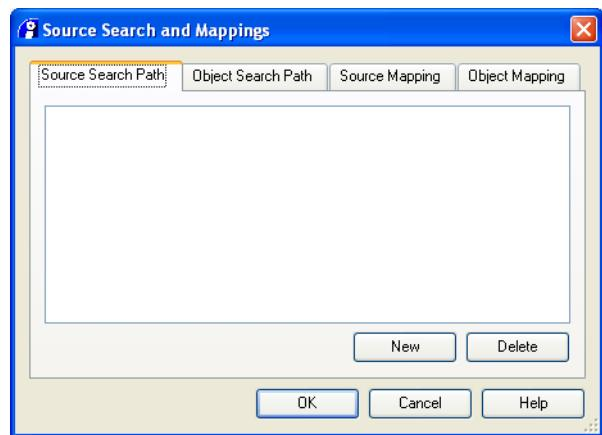

Figure 4-14 Source Search Paths dialog box
1. Select **Set Source Search Path...** from the **Debug** menu to display the Source Search and Mappings dialog box. Figure 4-14 shows an example. The **Source Search Path** tab is selected by default.
1. Select **Set Source Search Path...** from the **Debug** menu to display the Source Search and Mappings dialog box. Figure 4-14 on page 4-31 shows an example.